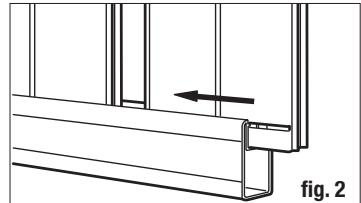

fig. 2
- Begin to insert the remaining pickets into the channel of the bottom rail (fig. 2). Because the pickets have a tongue-and-groove design, be sure to insert each in the same direction. Tightly align the tongue of each picket into the groove of the next one as they slide into the channel. Continue to slide the pickets to the opposite side of the bottom rail until all are inserted into the channel.